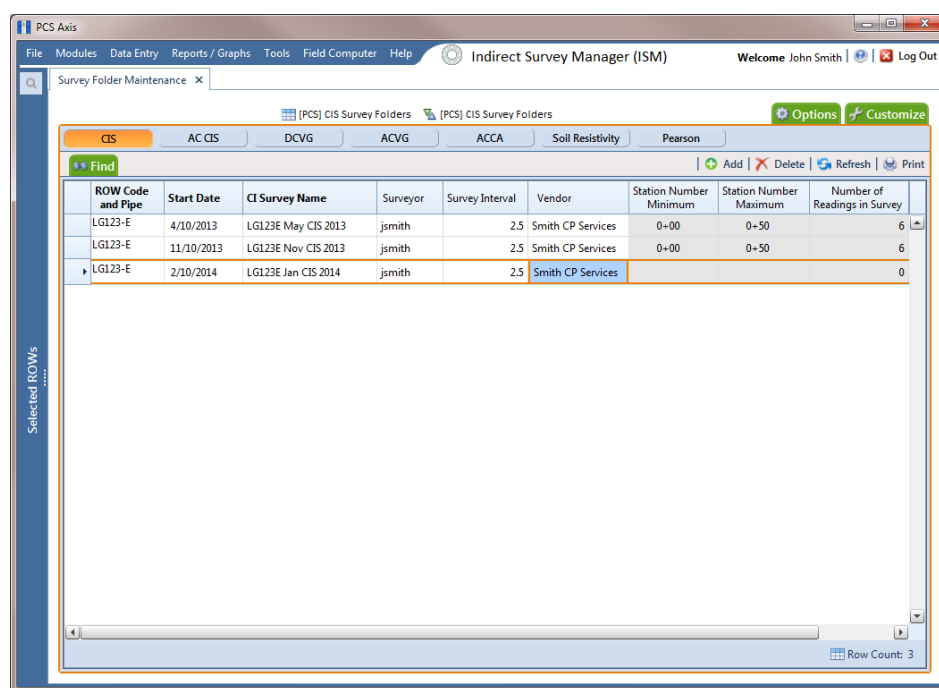

Figure 6-7. Survey Folder Maintenance
- 10 Click  **Save** to close the *Add Record* dialog box and add a row of records in the grid for the new continuous survey folder (Figure 6-7).
- 4 Click a button labeled with the type of continuous survey folder you want to delete. For example, click the **CIS** button  to delete the survey folder and associated survey readings for a close interval survey (Figure 6-7, page 164).